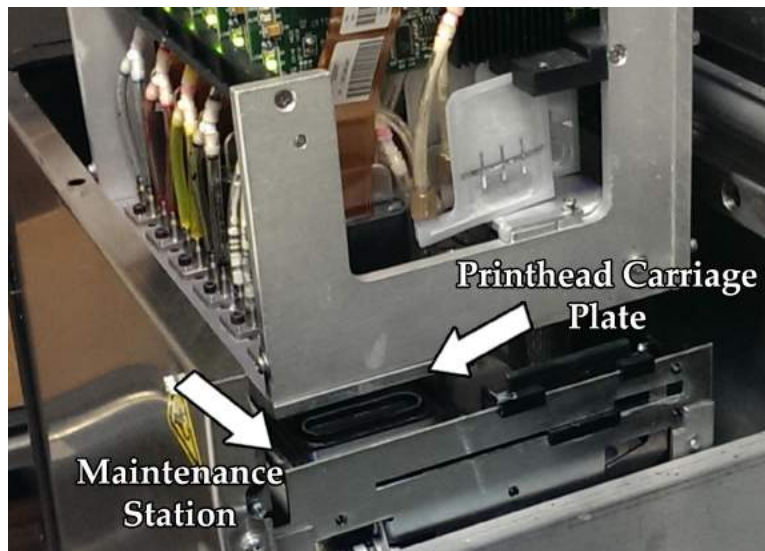

Figure 7.4a: Carriage and Maintenance Station
- Locate the Printhead Carriage and the Maintenance Station. (Figure 7.4a)